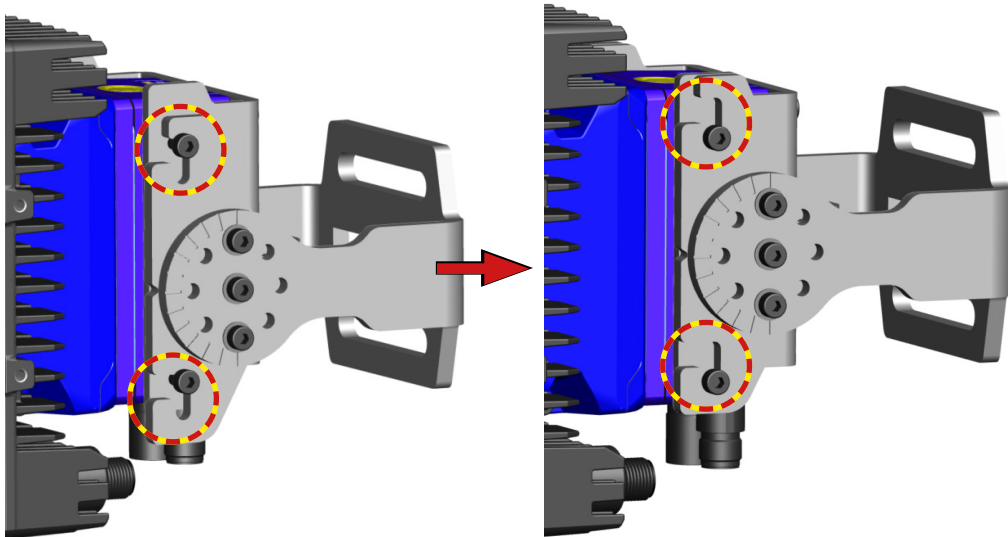

Fig. 5 - Mounting the plates together
4. Fix the Frame Plate + Rotating Plate assembly to the Fast Replacing Plate, as shown in Fig. 5, and tighten the four screws on both sides of the Fast Replacing Plate.